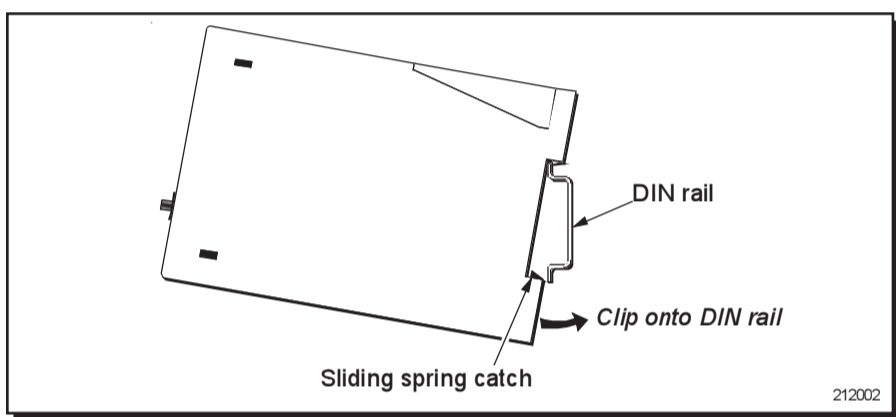

Fig. 2 Installing the LM Technic onto a DIN rail
- Refer to Fig. 2. Rest the uppermost groove on the rear of the processor on the top lip of the DIN rail.